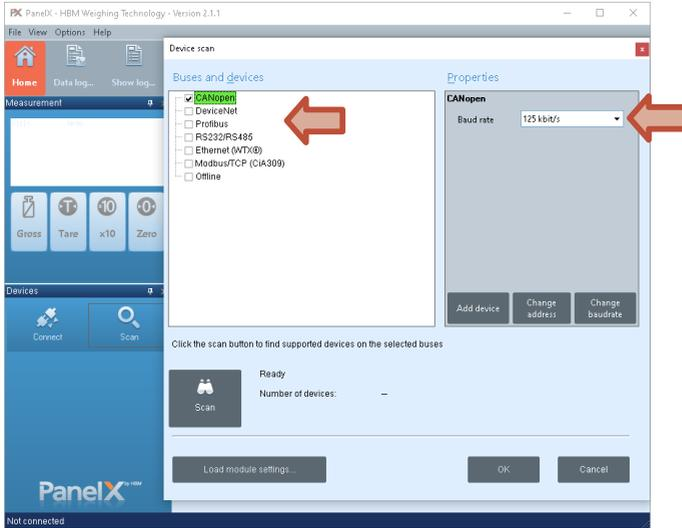

Fig. 6.2 Selecting the bus system and baud rate
- ▶ Select the interface you want to use to connect: **CANopen**, **DeviceNet** or **RS232/485** for the diagnostics bus (*Fig. 6.2*). If you are connecting the diagnostics bus via a USB-to-RS232 adapter, select the relevant virtual port for **RS232/485**.